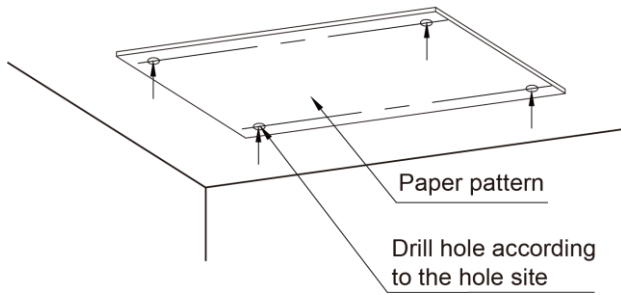
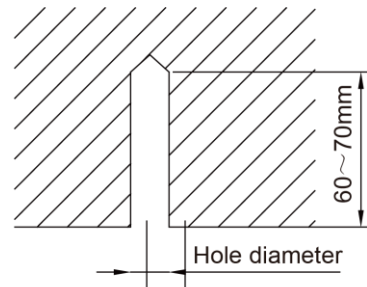

Fig 4.1.2
Fig 4.1.3
1) Stick the reference cardboard on the installation position; drill 4 holes according to the hole site on the cardboard as shown in fig 4.1.2; diameter of drilling hole is according to the diameter of expansion bolt and the depth is 60-70mm, as shown in fig 4.1.3.